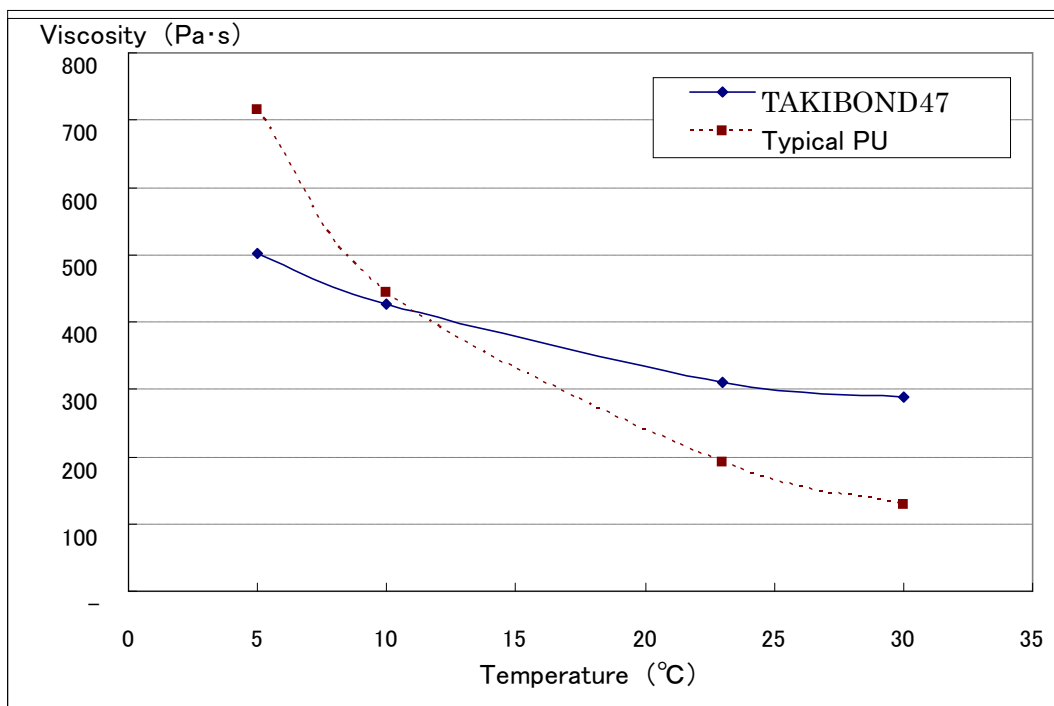

Figure 1 Temperature - Viscosity of TAKIBOND47(Reference:Polyuretan type adhesive)
*1 Please refer to the Figure 1.